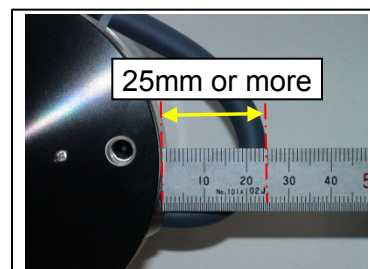

Fig. 5: Cable bend radius
(4) Keep 25mm or more bend radius of the force sensor cable, pull the strap of the cable ties and securely hold the cables. (Shown in Fig. 5.)